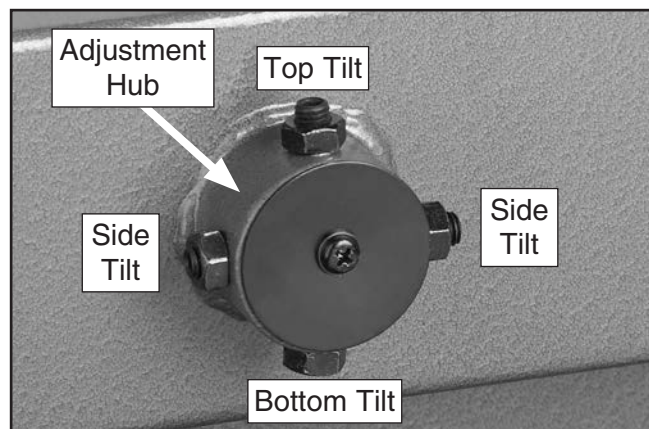

Figure 105. Lower wheel adjustment control.
2. Loosen the jam nuts on the lower wheel adjustment hub (see **Figure 105**).